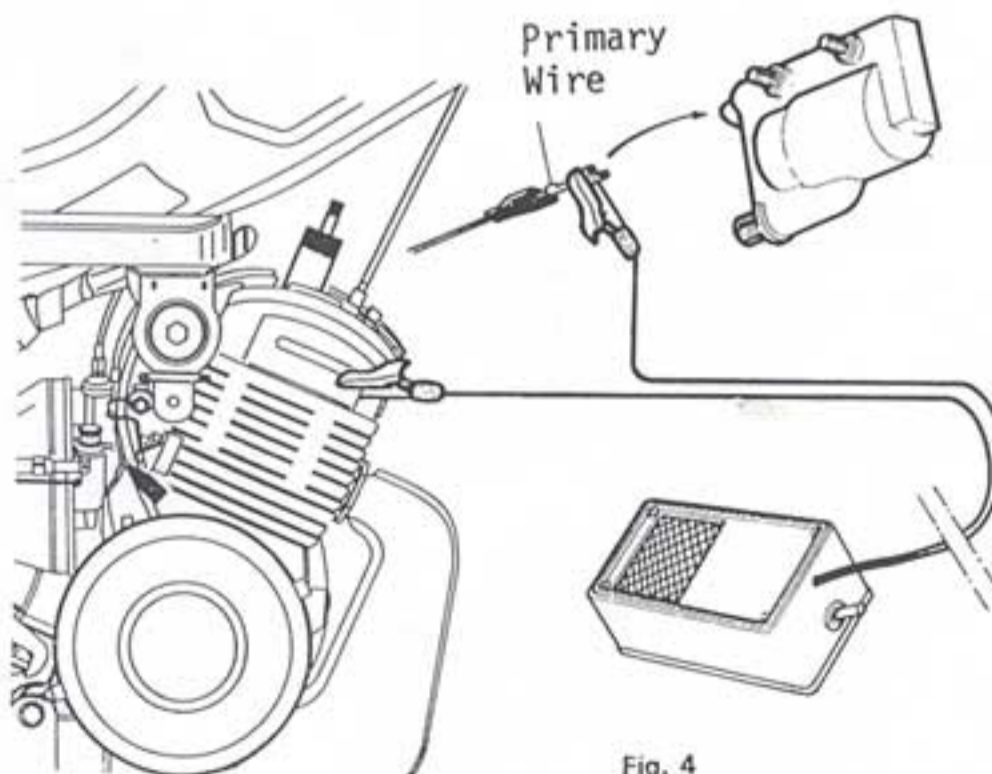

Fig. 4
4. Rotate the rotor clockwise one full revolution and as the blue stripe just begins to appear, the ohm meter should deflect to ∞ . Points just begin to open. If a timing lite/tester is used, the light will go "ON" (fig. 4). (See note, page 26.)
- Attach one probe from the ohm meter to the grey wire (fig. 4)
- Attach the other ohm meter lead to a ground point. (Example: Cylinder head) (fig. 4)